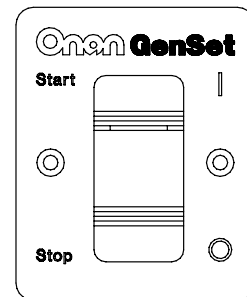

FIGURE 5-3. REMOTE SWITCH
- Remote start/stop switch with status indicator light only (Figure 5-3).